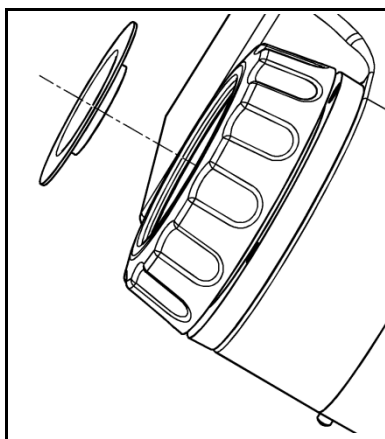

Fig. 21: Aligning the seal
3. Remove old seal (see Fig. 21).
- i** The lip of the seal must be aligned inward (see Fig. 21).